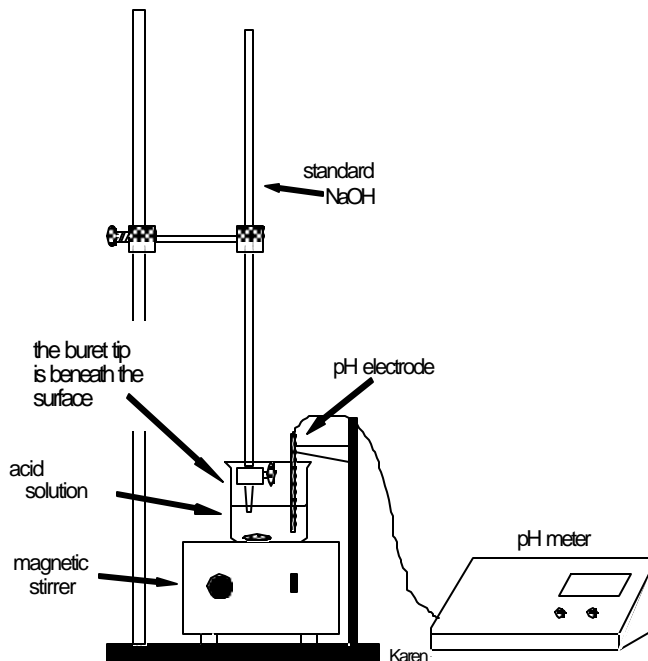

Figure 3 Equipment setup for the potentiometric titration.
3. Set up the titration apparatus as shown below in Figure 3 on the following page.